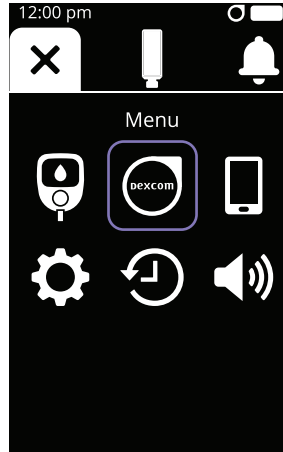

Figure 81
- Tap the **CGM** icon (see Figure 81)